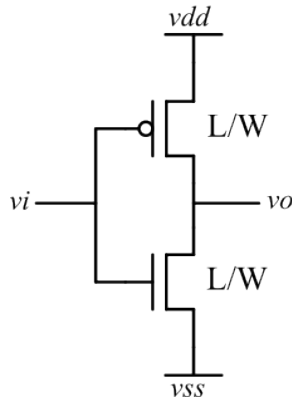
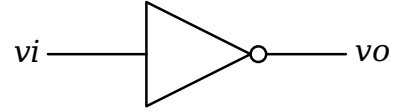

Figure 2
Figure 3
a. Create the circuit from Figure 2 in Virtuoso, and call it INVD1. The PMOS device has $L/W = 50\text{nm}/0.4\mu\text{m}$ and the NMOS device has $L/W = 50\text{nm}/0.3\mu\text{m}$. In order to use this schematic in other circuits, we must also create a "schematic symbol" - students should create a symbol similar to that in Figure 3. The capacitor can be found in `analogLib` under the name `cap`. As with all CADs in this class, the body connection for all PMOS and NMOS devices is `vdd!` and `vss!` respectively.